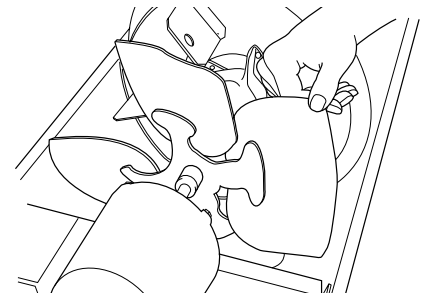

Figure 16 - Turning Fan with Hand
3. Turn fan with hand (See Figure 16).